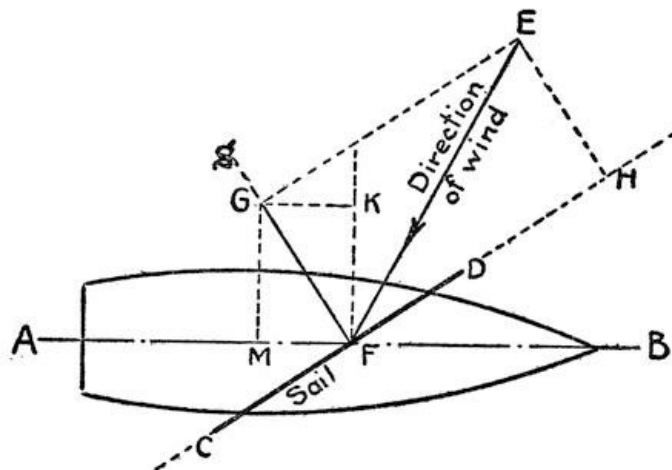

FIG. 60.—FORCES THAT MOVE A SAILBOAT
Now that we know something about the parallelogram of forces we may return to the problem of sailing across and against the wind. In Fig. 60 we are looking down on the deck of a ship and the wind is represented by the arrow. The dotted line AB represents the direction in which the boat is traveling and the line CD represents the plane of a sail. If the line EF represents the magnitude and direction of the force of the wind at the center of the sail, then we can tell how much pressure is being exerted directly against the sail, by drawing the line GF perpendicular to the sail and completing the parallelogram by drawing from E a line parallel to the sail intersecting GF at G and another line parallel to GF intersecting the plane of the sail at H . Then the length of the line GF represents the pressure against the sail. If the line GF is half as long as the line EF , then only half of the force of the wind is exerted in the direction GF . In other words, a wind pressure of one pound per square foot blowing in the direction of GF will do as much work as two pounds in the direction EF . The force of the wind has been broken up into two "components," one (GF) at right angles to the sail, and the other (HF) edgewise to the plane, and of course the latter has no effect upon the propulsion of the boat.